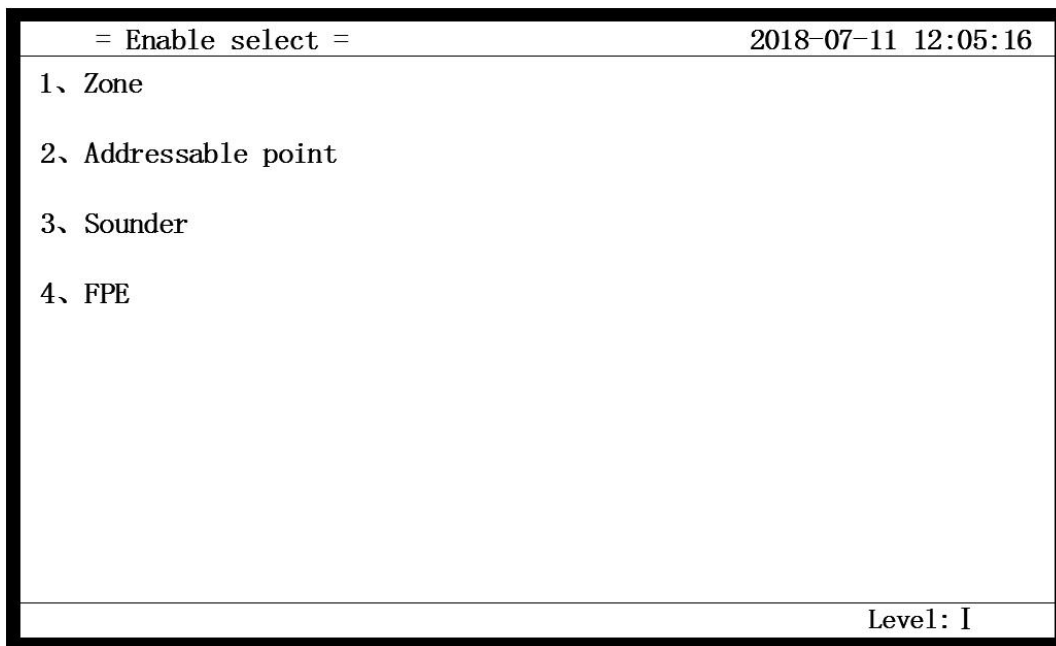

Fig. 5-16
Enable can be divided into two methods of point enable and zone enable, which can also enable all sounders and disabled FPE device. Press the “Enable” button and enter the Level II password correctly, as shown in Figure 5-16.
5.8.2.1 For example: Enable all devices in the 01 zone, press the number key “1” on the interface of Figure 5-16 to enter the zone enable operation interface, and follow the steps below:
5.8.2.2 For example, the enabled device is a loop device with No. 001 of the first loop. Press the number key “2” on the interface of Figure 5-16 to enter the address point enable operation interface. The following steps should be taken:
5.8.2.3 For example: Enable all sounders. Press the number key “3” on the interface of Figure 5-16 to enter the sounder disabled operation interface. Follow the steps below:
5.8.2.4 For example: To release all FPE disable, press the number key “4” on the interface of Figure 5-16 to enter the FPE enable operation interface, and follow the steps below: